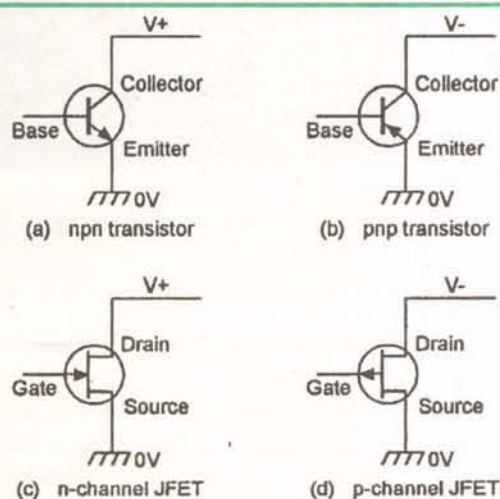

Figure 1. Comparison of transistor and JFET symbols, notations, and supply polarities.
The second family is known as either 'insulated-gate' FETs or Metal Oxide Semiconductor FETs, and these terms are generally abbreviated to IGFET or MOSFET, respectively. 'N-channel' and 'p-channel' versions of both types of FET are available, just as normal transistors are available in npn and pnp versions. Figure 1 shows the symbols and supply polarities of both types of bipolar transistor, and compares them with both JFET versions.
(1). When a JFET is connected to a supply with the polarity shown in Figure 1 (drain +ve for an n-channel FET, -ve for a p-channel FET), a drain current (I_D) flows and can be controlled via a gate-to-source bias voltage V_{GS} .